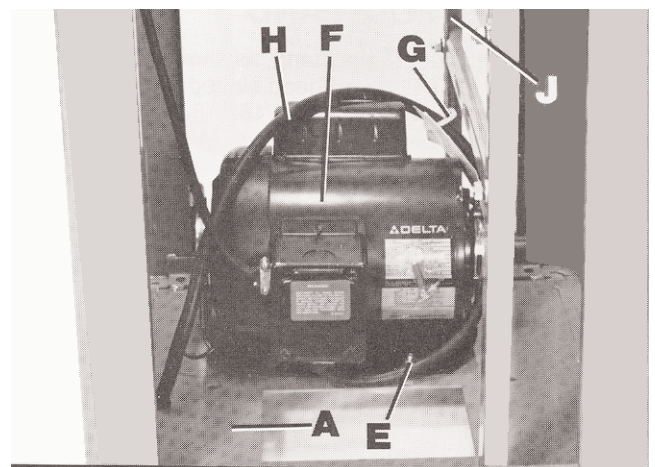

Fig. 2
Remove two mounting screws, one of which is shown at (E) Fig. 2, that are holding motor (F) to the top of stand (A).
**IMPORTANT: DO NOT REMOVE CABLE TIE (G) THAT IS HOLDING SWITCH CORD (H) TO VERTICAL MOUNTING BAR (J) UNLESS YOU ARE USING THE ACCESSORY 28-894 HEIGHT ATTACHMENT ON THE BAND SAW. THIS CABLE TIE (G) WILL KEEP THE SWITCH CORD (H) FROM CONTACTING THE MOTOR PULLEY OR BELT DURING OPERATION.**